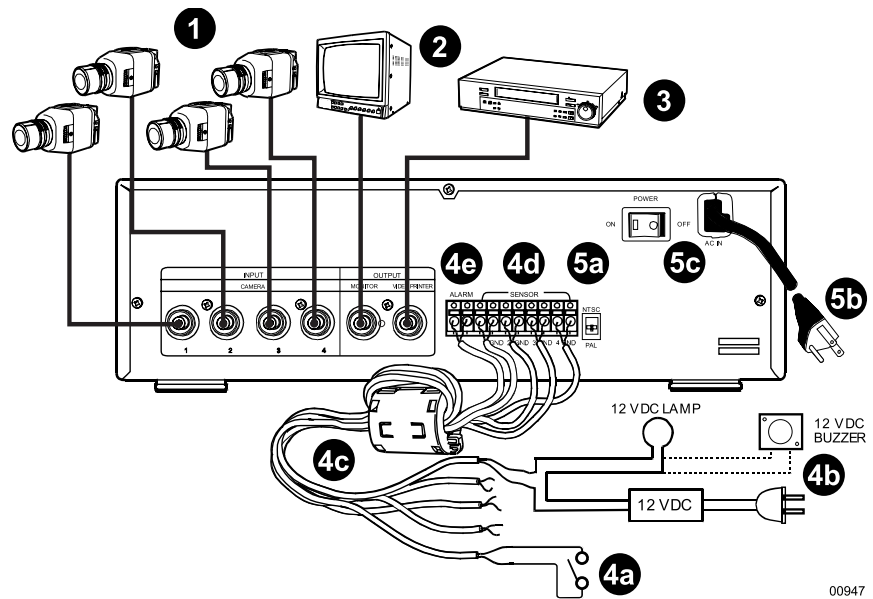

Figure 2. DX1000 Series DVR Installation
- 1 Induced Voltage Protector (refer to item 4c in Figure 2)